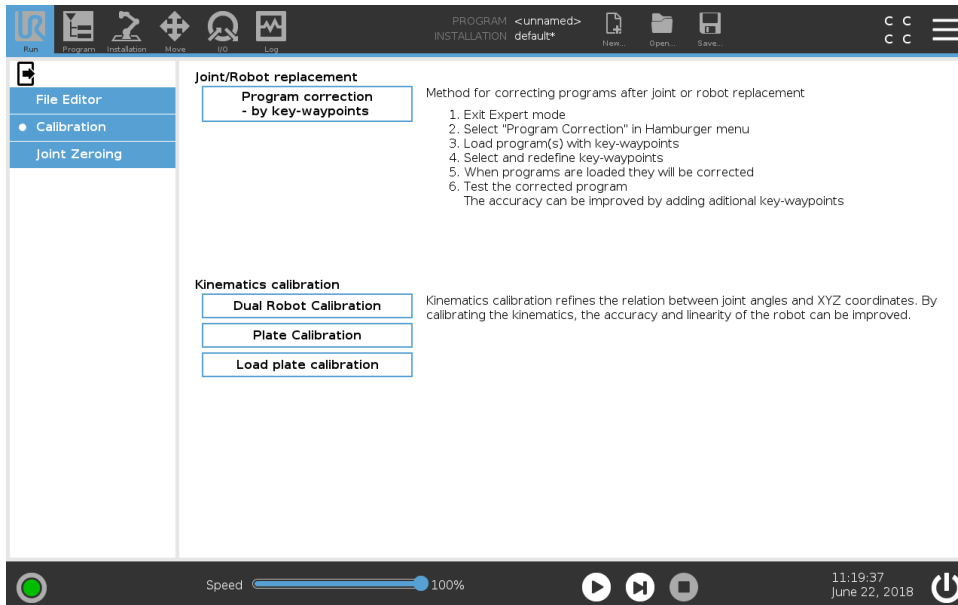

Figure 2.8: Select **Dual Robot Calibration** as the method.
- (13) Under **Kinematics Calibration**, select **Dual Calibration**. See Figure 2.8.